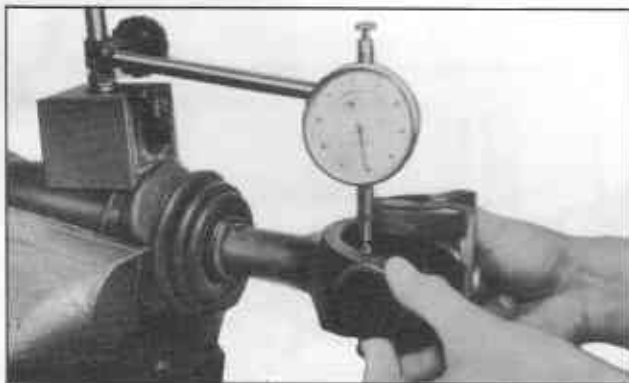

Fig. RA-22 Measuring play in drive shaft
6. Check the play in the drive shaft as shown in Figure RA-22. If the play exceeds 0.1 mm (0.0039 in.) replace the drive shaft assembly. The measurement should be taken with the drive shaft fully compressed.